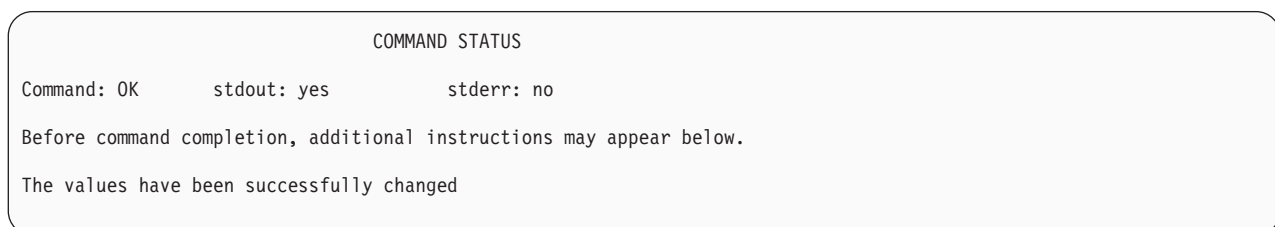

Figure 2-121. COMMAND STATUS Screen – OK
10. When the execution of the command is complete, the screen shown in Figure 2-121 displays. "OK" appears in the "Command" field.